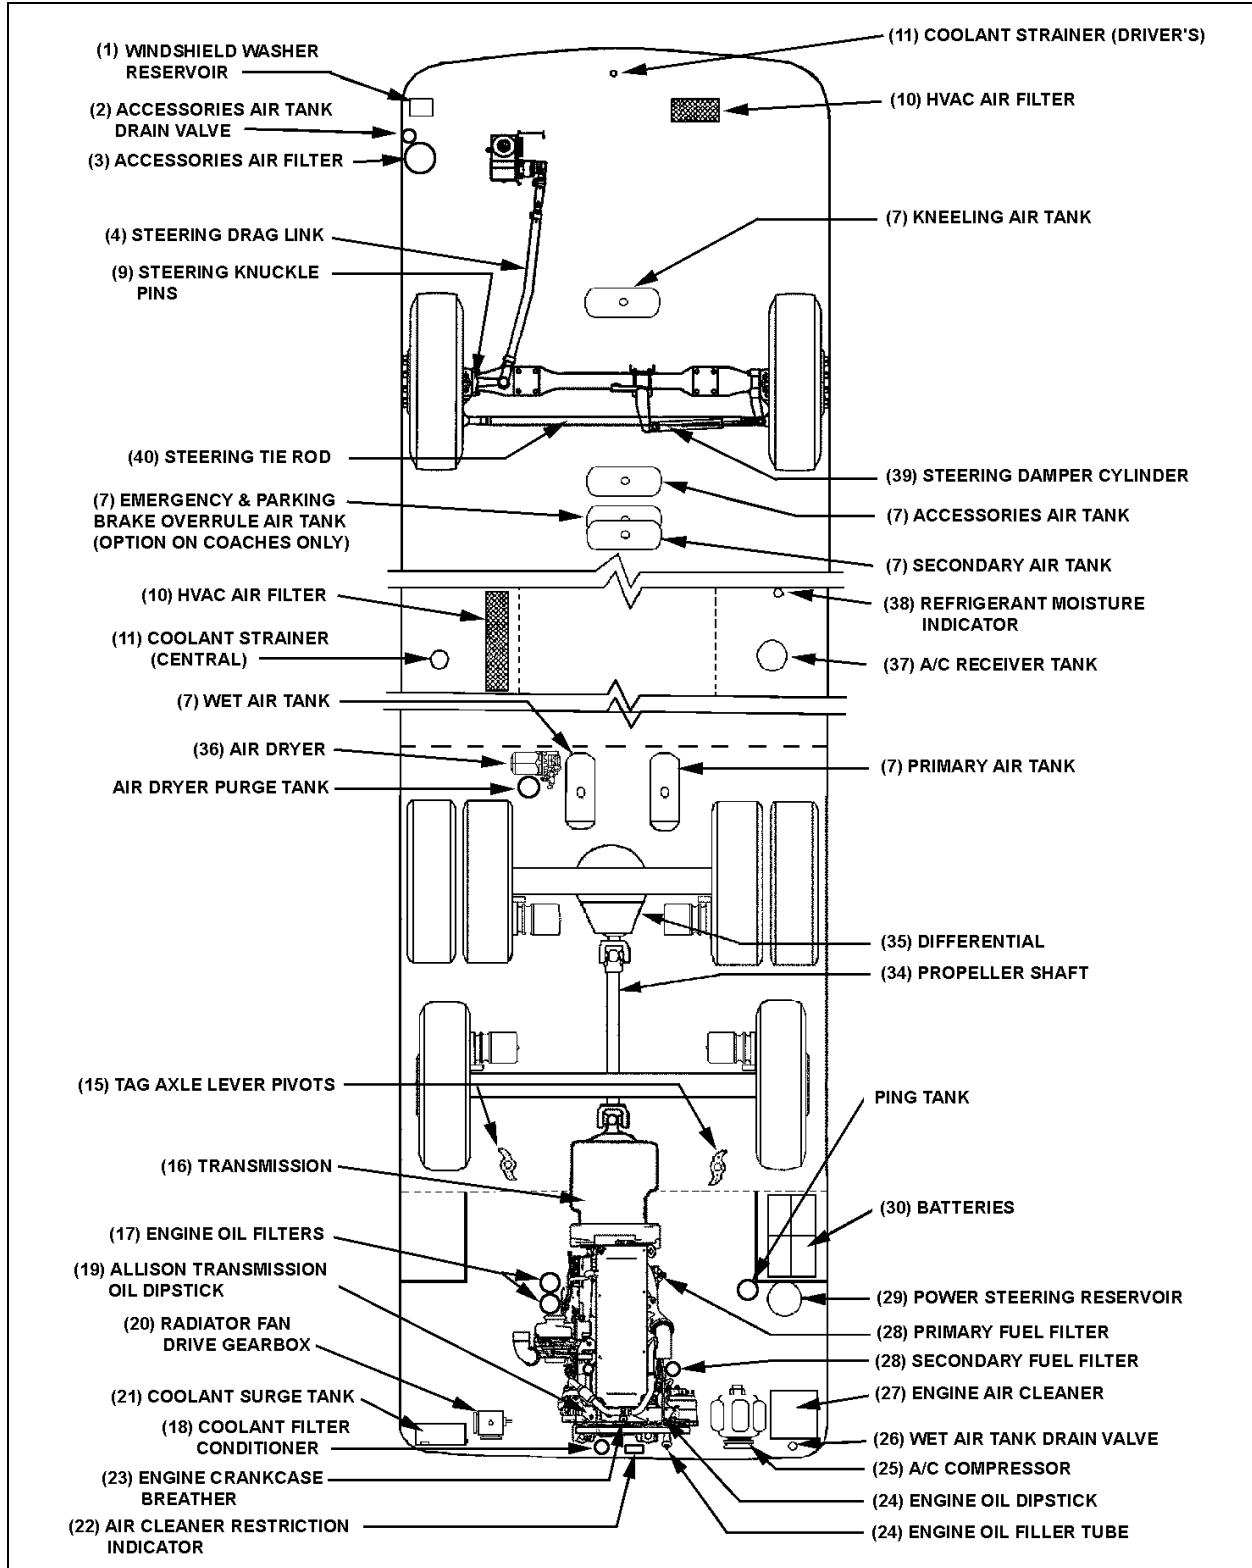

FIGURE 2: LUBRICATION AND SERVICING POINTS ON I-BEAM FRONT SUSPENSION VEHICLES
- FIGURE 2: LUBRICATION AND SERVICING POINTS ON I-BEAM FRONT SUSPENSION VEHICLES .....24-5
\* Item numbers refer to figures 2 and 3.